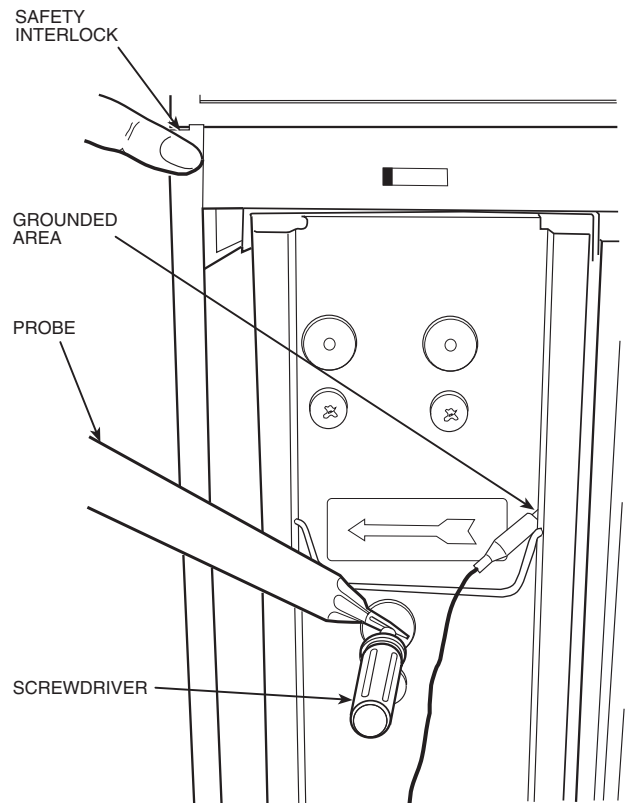

Fig. 7 — Testing Voltage at Cell
2. Insert a thin shafted screwdriver 2 to 3 inches into the hole in the round end plate insulator. See Fig. 7.